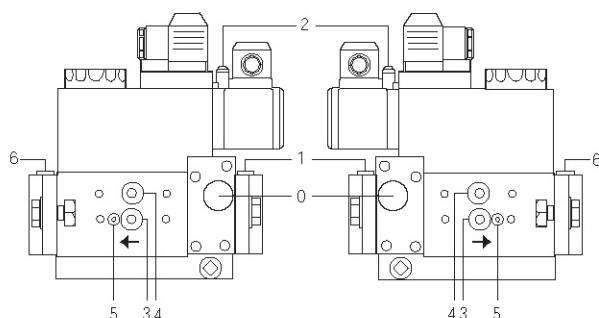
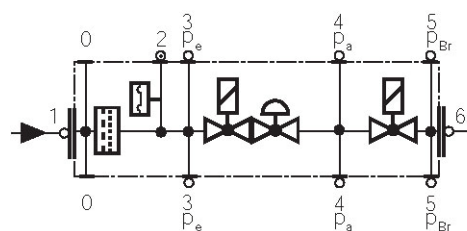

Fig. 34
Fig. 35
- Change the filter if the pressure difference between pressure connection 1 and 3 (Fig. 34-Fig. 35) is  $\Delta p > 10$  mbar.
- Change the filter if the pressure difference between pressure connection 1 and 3 (Fig. 34-Fig. 35) is twice as high compared to the last check.